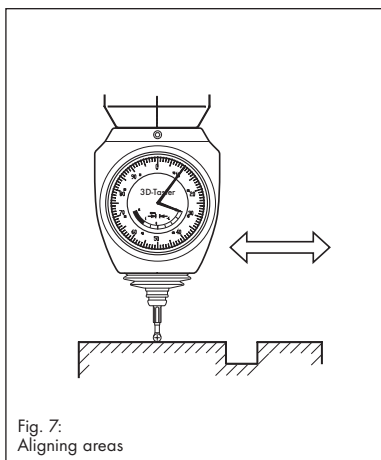

Fig. 7: Aligning areas
### 6 Aligning areas (fig. 7)
- Slide along the surface with the sensing ball (Fig. 7). The deflection at the dial gauge shows how strongly the parallelity of the surface to the machine axis deviates. If there is only a small deflection of the sensor balls it is also possible to cross over breaks in the surface (drilled holes, grooves).